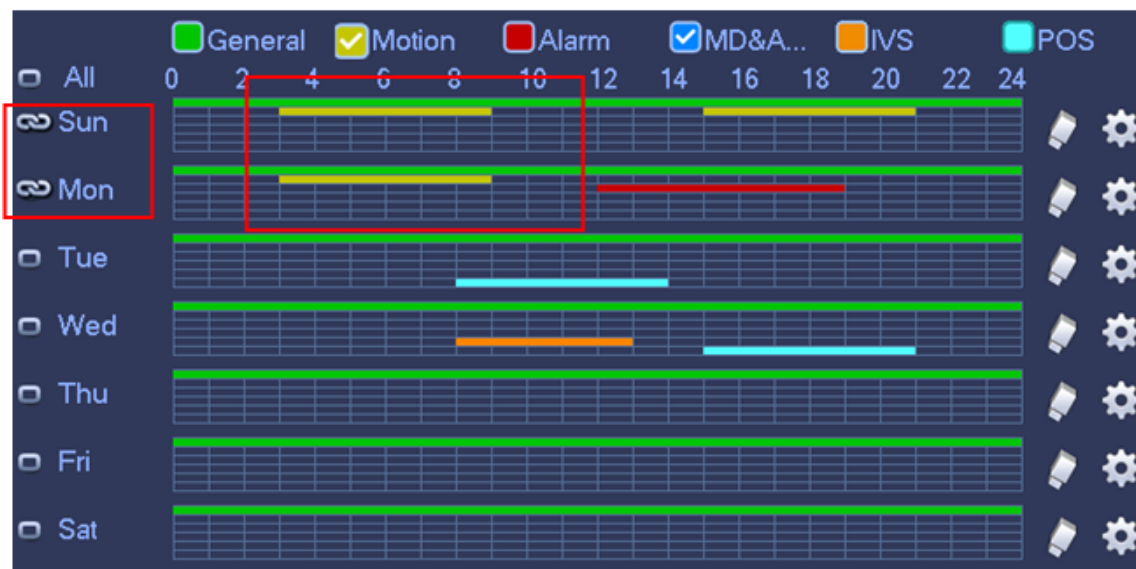

Figure 4-27
Step 3 Please draw manually to set record period. There are six periods in one day. See Figure 4-27.